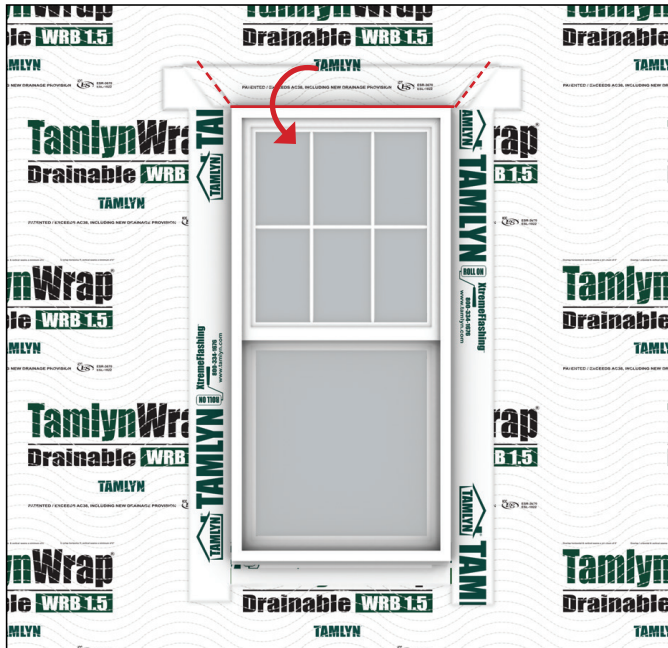

FIG 10:
- Fold the top tab of **TamlynWrap® Drainable WRB** over the head section as shown in **(FIG 10)**.